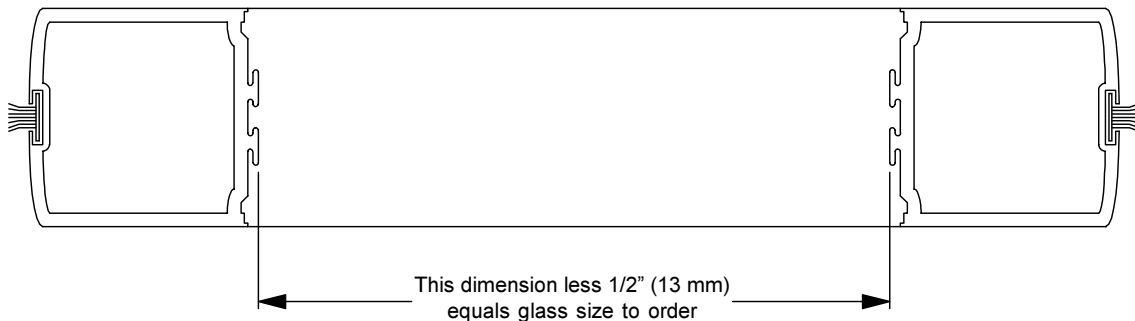

Figure 29. Glass Measurement
- If the installation is **not** a standard package, measure the width and height between the stile extrusions and **subtract 1/2” (13 mm) (Figure 29)**. This is the glass size to order.